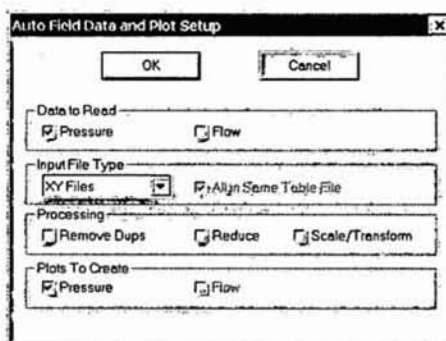

Figure 69. Automated Field Data and Plot Setup Window
- (1) Select the Auto Setup→Field Data Plots.
- (2) A dialog will appear as shown in figure 69: